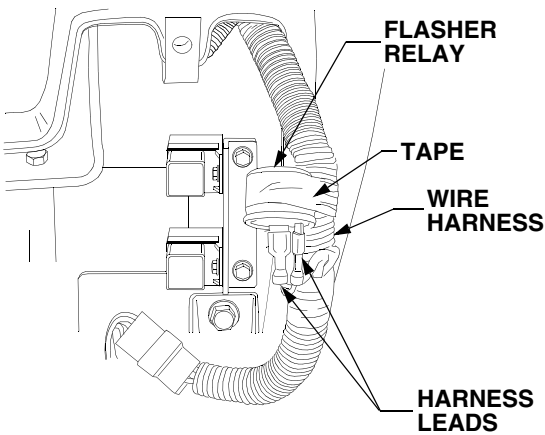

Figure 42
- Pull the wire harness from the right side of the dash opening and remove the electrical tape from the flasher relay. Refer to Figure 42.